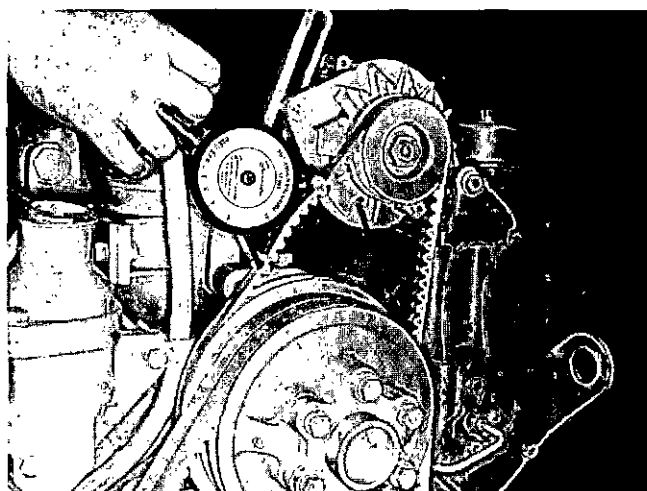
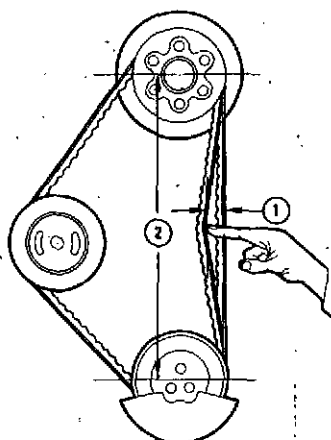

Fig. 5-23, V11918. Checking belt tension with ST-968
Fig. 5-24, V10809. Checking belt tension manually.
1. Tighten belts until a reading of 90 to 110 lb. is indicated on ST-968 Belt Tension Gauge, Fig. 5-23, or ST-1138 (if belt is over 1/2 in. [12.700 mm] wide).
2. If belt tension gauge is not available, tighten belts so pressure of index finger will depress belt as shown in Table 5-4. The index finger should be extended straight out from hand; in this manner, force will be approximately 13 lb. [5.8968 kg] deflection per ft. [0.3048 m] of span (2).
3. Deflection (1, Fig. 5-24) should equal amount indicated in